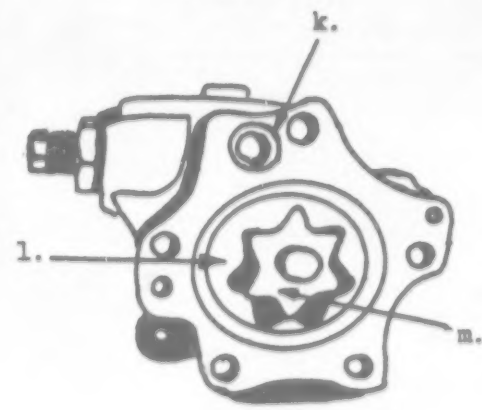

Figure 5
- STEP 13. Remove and discard "O" ring seal from body (Item k in Figure 5).
- STEP 15. Remove the outer rotor (Item l in Figure 5).
- STEP 16. Remove the inner rotor (Item m in Figure 5).